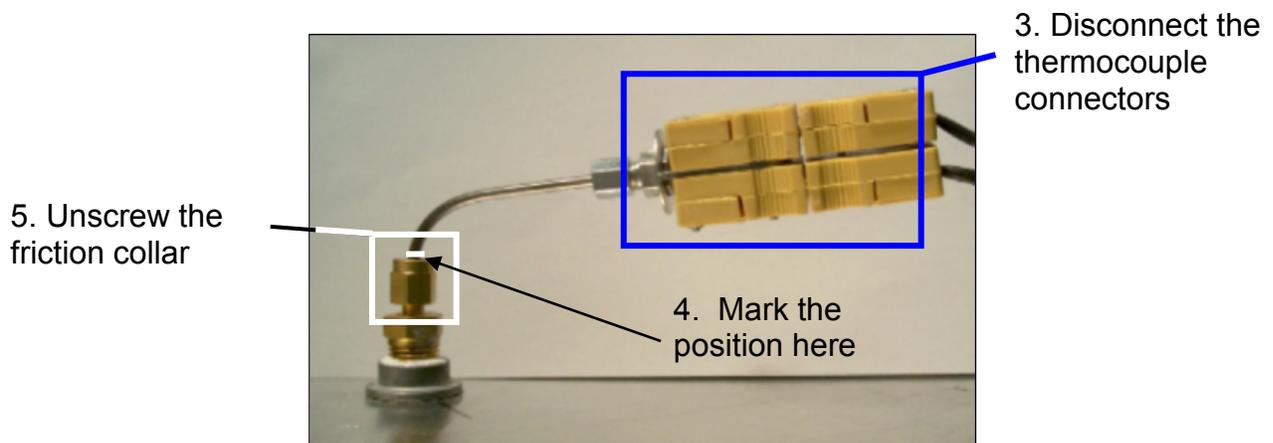

Figure 7-14: Thermocouple Installed (Over Temperature T/C Shown)
3. Disconnect the thermocouple connectors; See Figure 7-14 below.